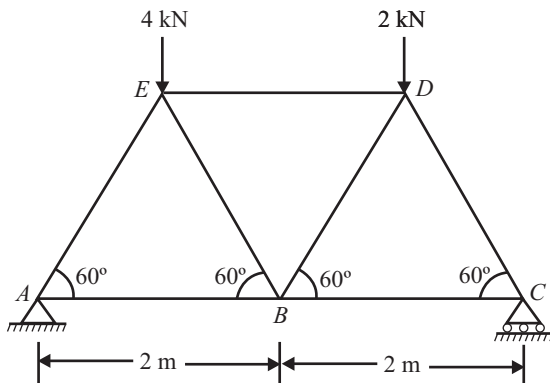

Fig 13.8
Q. 10: Determine the reaction and the forces in each member of a simple triangle truss supporting two loads as shown in fig 13.8.